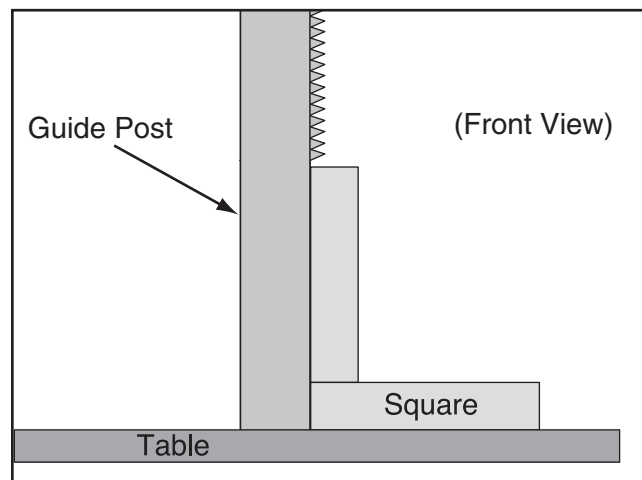

Figure 74. Example of checking guide post squareness.
7. Disconnect the machine from power, then place a machinist's square on the table next to the right hand side of the guide post, as shown in **Figure 74**.